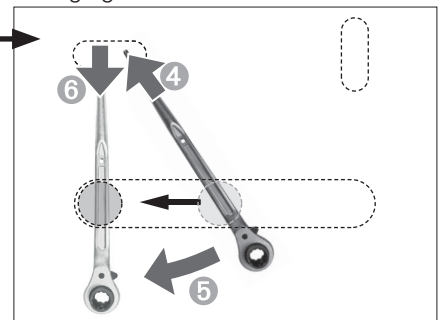

Fig. A4.15b
6. Remove the scaffold ratchet. (Fig. A4.15b)